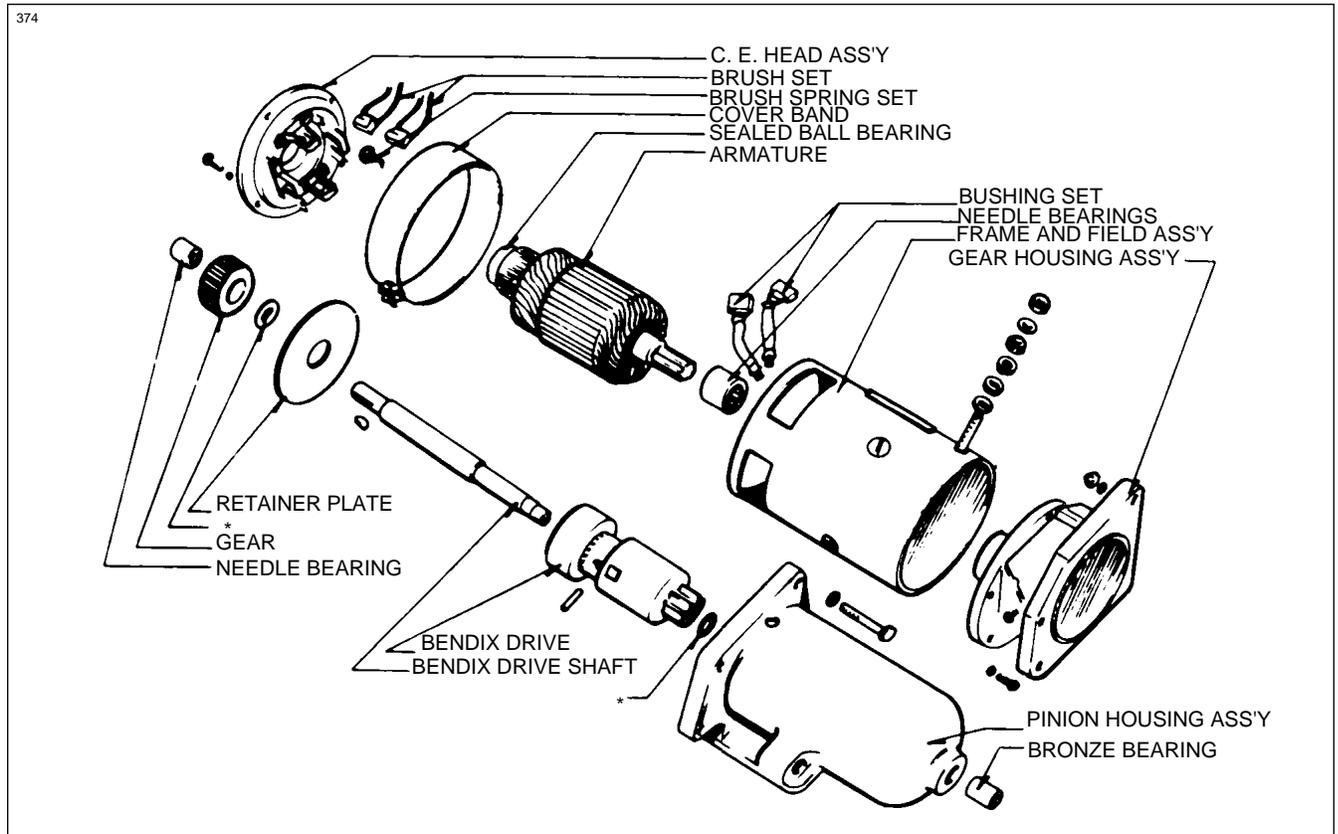

Figure 11-19. Exploded View of Gear Reduction Starter Motor
**11-36. DESCRIPTION.** (See Figure 11-19.) The gear reduction starting motor consists of six major components: The Commutator End Head Assembly, The Armature, The Frame and Field Assembly, The Gear Housing, The Pinion Housing, and The Bendix Drive Assembly.